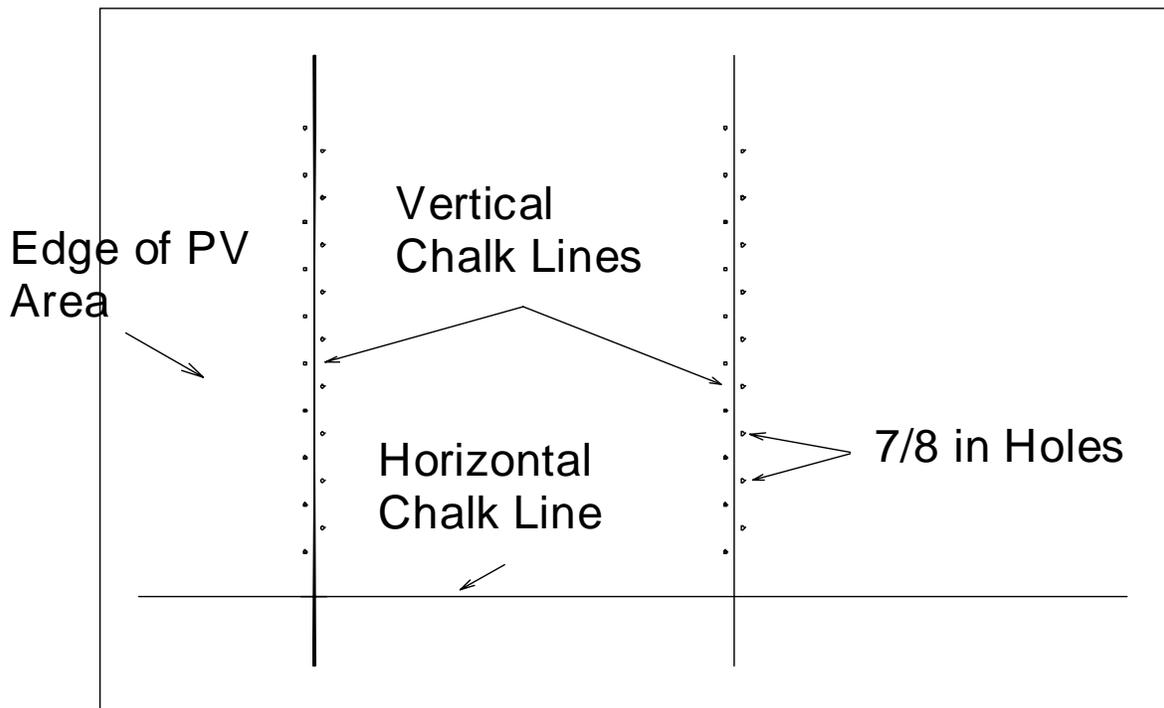

Figure 8
2.7 Repeat step 2.6 for all remaining marks made in steps 2.1 through 2.5 as shown in figure 8.